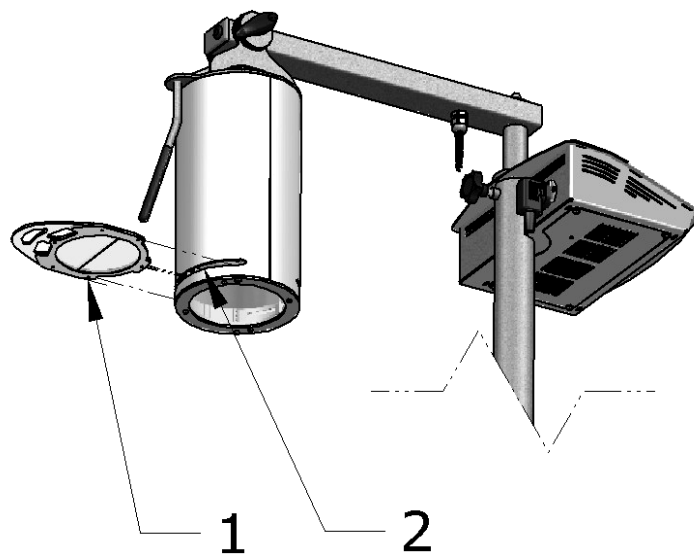

Figure 8 - The method of setting filters
Applying filters (fig. 8 item 1) is done by inserting them into the slit (fig. 8 item 2) in the front part of the tube. The filter is automatically immobilized, which prevents it from falling out.